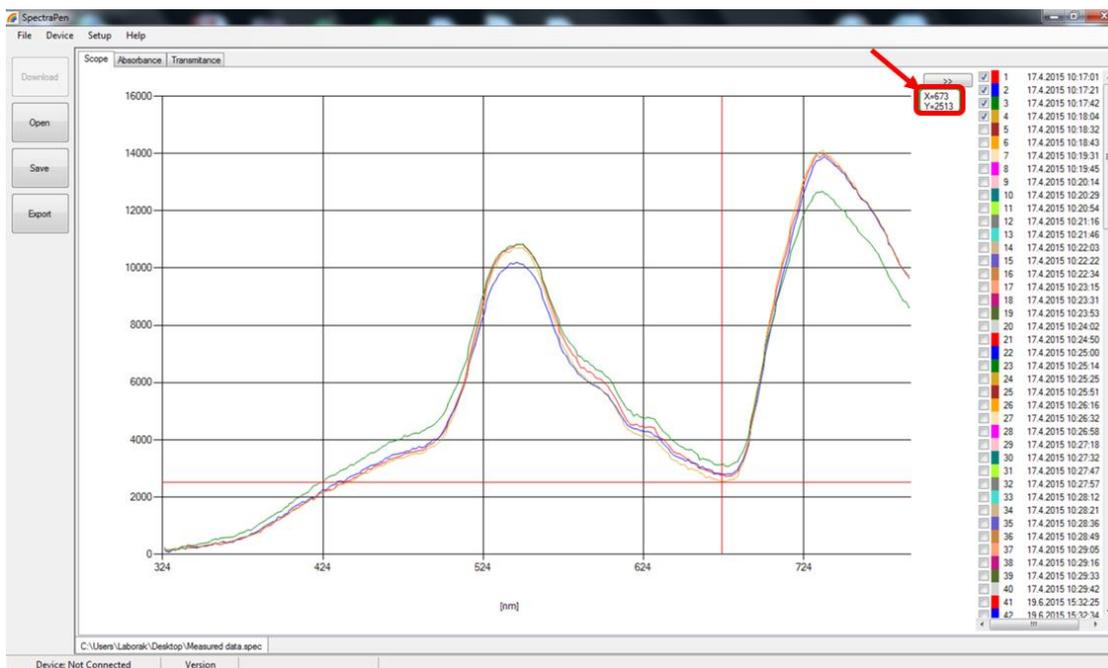

Fig. 29 Marker function.
8. In the graph **marker** feature is available, which enables display of the numeric values for wavelength and transmittance or absorbance for the selected wavelength of the scan (Fig. 29). Use the mouse to select the given point. In top right corner of the graph (green rectangle) is displayed exact value for the selected point on the x-axis and y-axis.